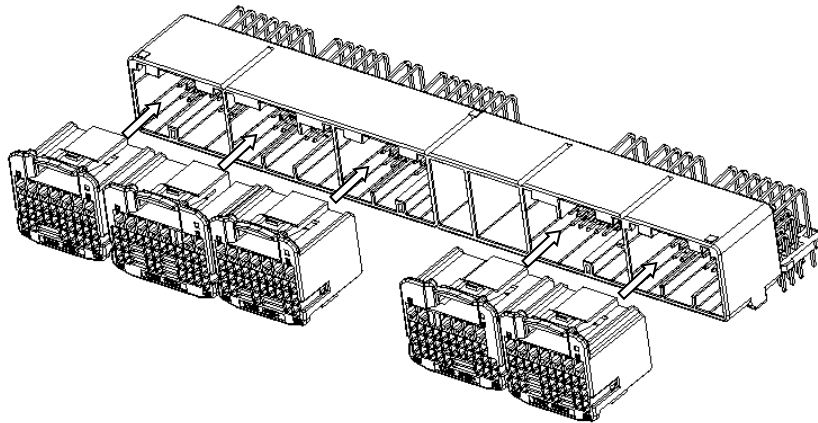

Fig.17
- (3) Insert the proper female housing into the male housing straight with same direction as shown in Fig.17. The operation is finished when you hear the click sound and can not insert further.